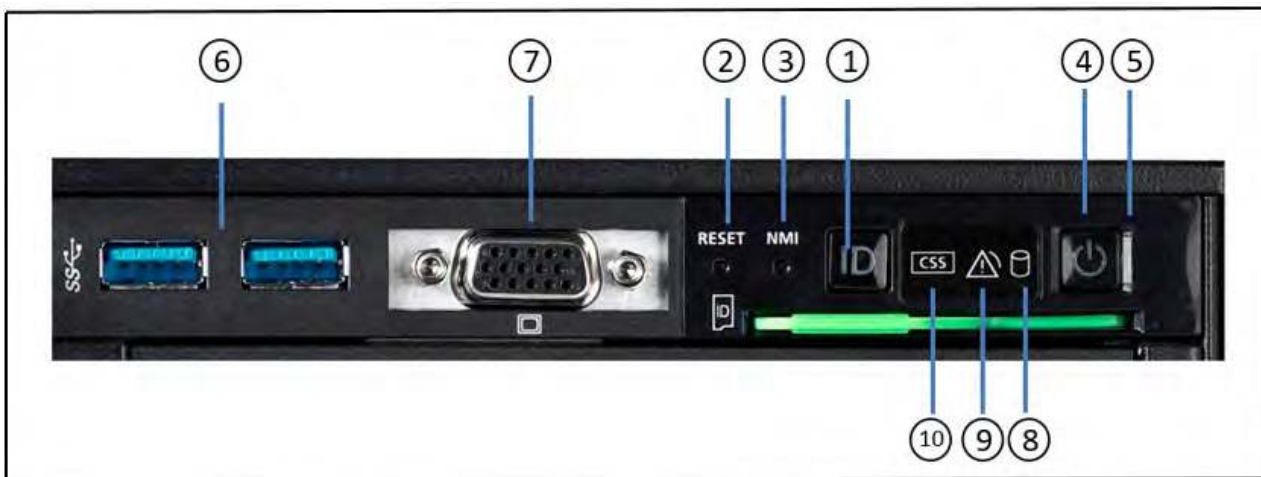
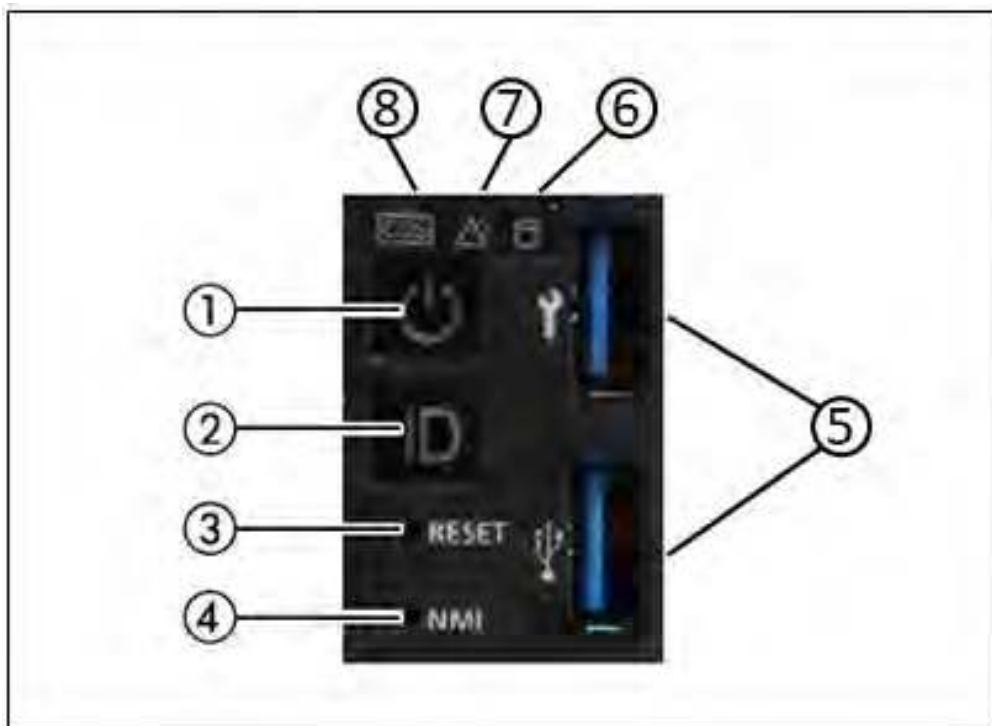

Figure 2: SU310 front - Detailed view: Operating panel
Figure 4: SU320/SU330/SU330B front - Detailed view: Operating panel
Before the Server Unit is switched on, the power status indicator lights up green (item 5 in figure 2) resp. on SU320 and SU330 / SU330B the status indicator (item 1 in figure 4) lights up white.
The On/Off switch / status indicator lights up green (item 4 in figure 2 resp. item 1 in figure 4). The Server Unit switches on, conducts a system test and starts X2000.
Before the Server Unit is switched off, the On/Off switch / status indicator lights up green, and after the Server Unit has been switched off it no longer lights up resp. on SU320 and SU330 / SU330B lights up white (item 4 in figure 2 resp. item 1 in figure 4).
The power status indicator (item 5 in figure 2, only on SU310) lights up green when the server is switched off but connected to the power supply (power cable connected).
4	Operating panel (for details see figure 2)
4	Operating panel (for details see figure 4)